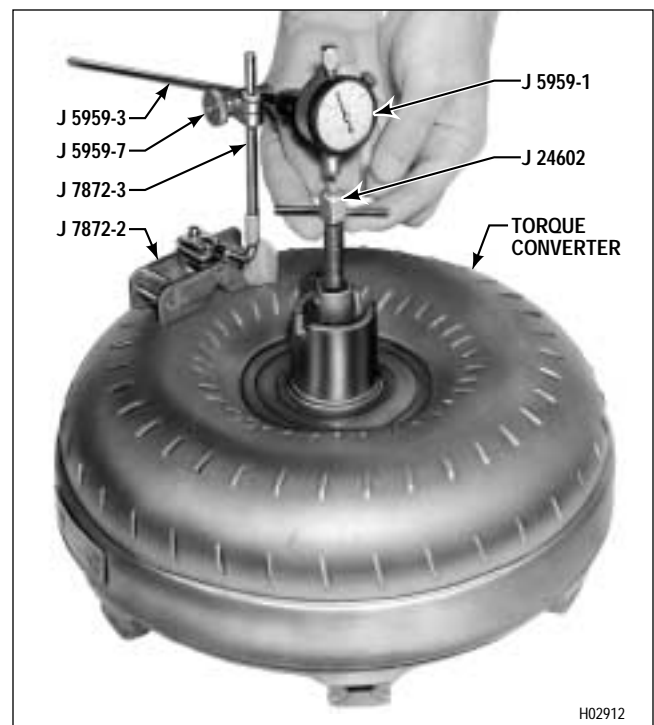

Figure 6-1. Checking End Play of Torque Converter Element
(1) To check for end play, support the converter assembly on the converter cover (pump hub upward). Place converter end play gauge J 24602 into the converter pump hub (Figure 6-1).
(2) Retain the body of the gauge in the pump hub with one hand while rotating the center screw with the other hand, locking the gauge to the turbine hub. Do not overtighten.
(3) Assemble J 5959-1, J 5959-3, J 5959-7, J 7872-2, and J 7872-3 as shown in Figure 6-1. Install the above items onto the converter pump hub as shown.
(4) Adjust lug attachment J 5959-7 so the dial will make firm contact with the top of end play gauge J 24602.
(5) Set the dial to read zero and lift J 24602 as far as possible.